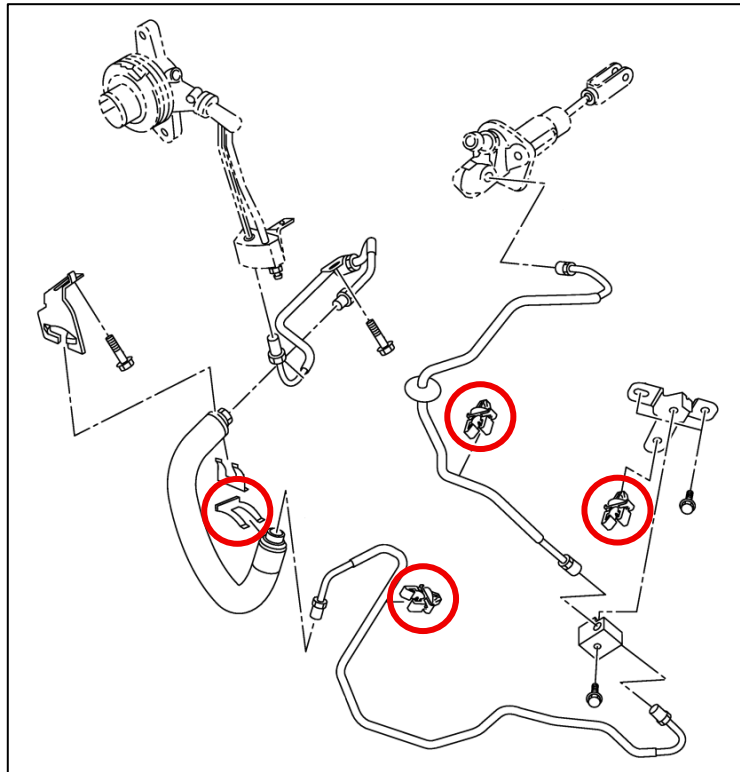

Figure 5
8. Remove any Retaining Clips securing the Clutch Hard Lines and disconnect them from any tabs on the vehicle. Once fully disconnected, remove the Hard Lines from the vehicle. *Figure 5.*